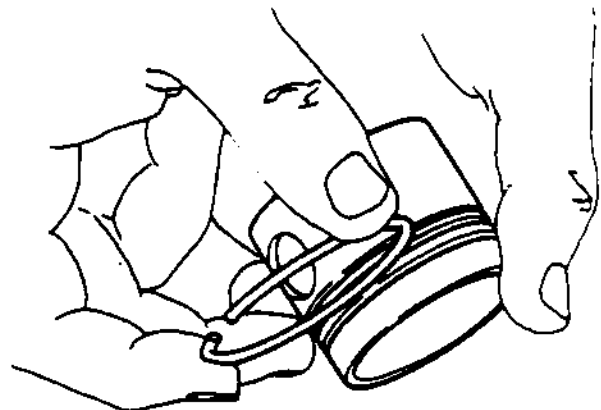

Figure 38 — Checking Piston Ring Groove Clearance
8. Check fit of rings (28, Figure 3) in the piston ring grooves. Use the back edge of a ring to check the fit (Figure 38). Roll the back edge of the rings in the grooves to make sure the rings move freely in the piston grooves.